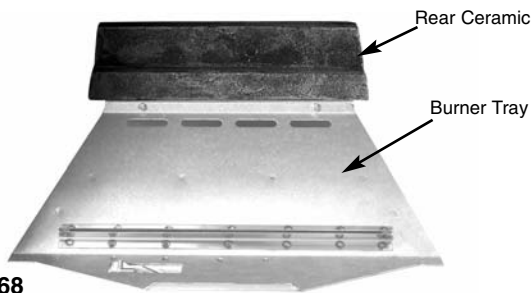

Fig. 68
1. Place the rear ceramic on the rear ceramic retainer ledge in a central position, ensuring the step portion is facing the front (Fig. 68).